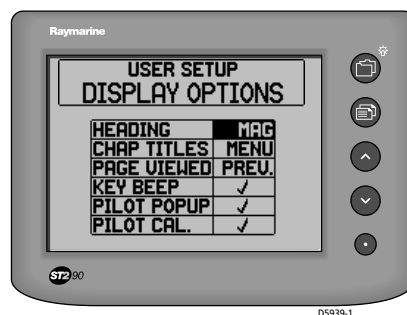

Figure 2-14: Display general options setup
You can set the following general options (see *Figure 2-14*):
1. With the general options page displayed (*Figure 2-14*), use the ▲ or ▼ button to highlight the option you want to set.